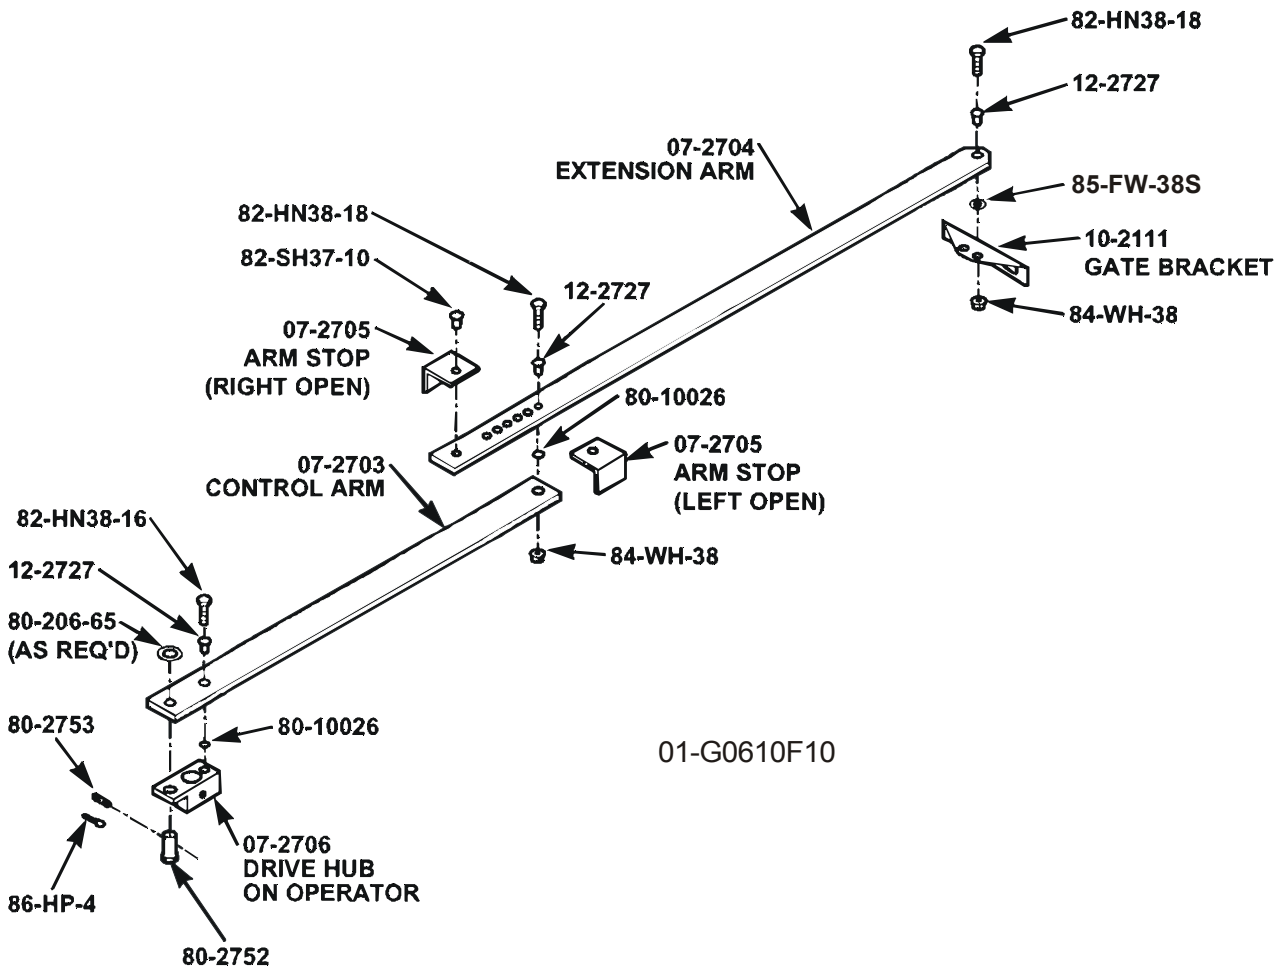

Figure 9
See Figure 9.
Refer to Figure 9 to determine which way to mount the arm stop.
- 6 Assemble the extension arm to the control arm using the hardware provided as shown in Figure 9.